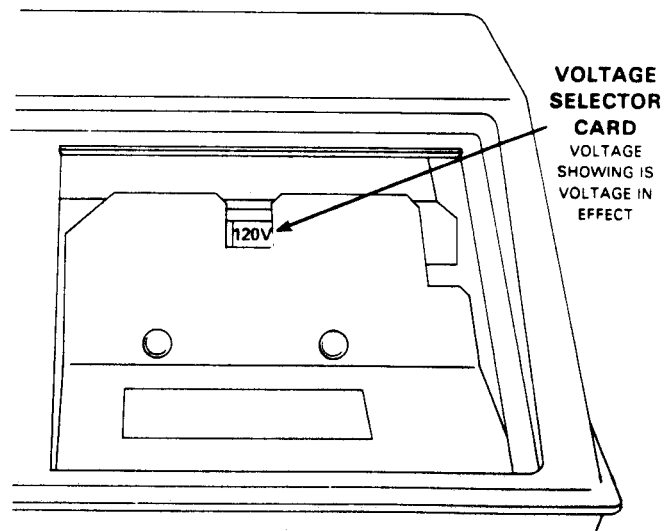

Figure 6-2. Voltage Selector Card
2. Check the AC power selection against the line voltage. Refer to Figure 6-2. The voltage at which the programmer will operate is shown on the voltage selector card. For proper operation, the line voltage must be within +5% or -10% of the voltage shown on the card.